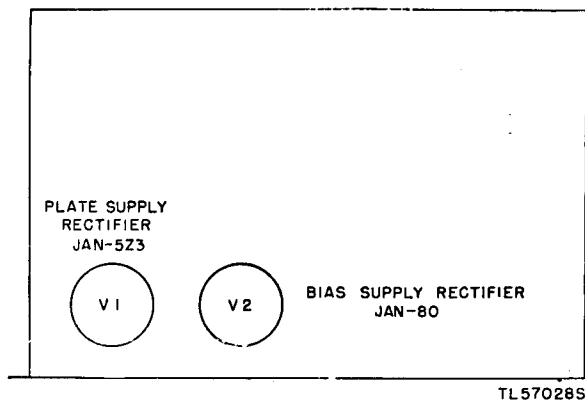

Figure 14. Power supply unit, tube location.
(2) **Power supply unit.** Take the dust cover off the power supply unit and remove the cardboard jackets from the two rectifier tubes. Figure 14 shows the location of these tubes.